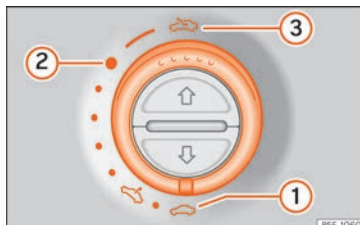

**Fig. 110** On the interior roof lining: turn the switch to open and close.
- Open: turn the switch to position ③. » Fig. 110 ③.
- Comfort position: turn the switch to position ②. » Fig. 110 ②.
- Close: turn the switch to position ①. » Fig. 110 ①.
- Lift: Push the switch to position ④. For an intermediate position, hold down the switch until you reach the desired position.
- Lower: pull the switch to position ⑤. For an intermediate position, hold down the switch until you reach the desired position.
The anti-trap function can reduce the risk of injury when closing the sunroof and the sun blind » Fig. 110. If the sunroof or sun blind encounter resistance or an obstacle when closing, they reopen immediately.
- The switch » Fig. 110 should be in the "closed" position ①.